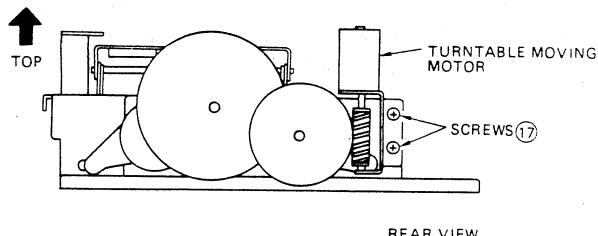

Fig. 10
Remove 2 screws ⑯ and remove the motor. (Fig. 10)